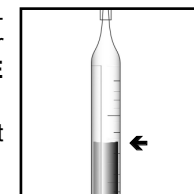

Figure 6
10. When the color of the liquid in the ampoule changes to **PALE PINK**, remove the ampoule from the Titrettor. Hold the ampoule, **tip pointed upward**, and read the scale opposite the liquid level (fig. 6). Results are expressed in ppm (mg/Liter) sodium hydroxide (NaOH).